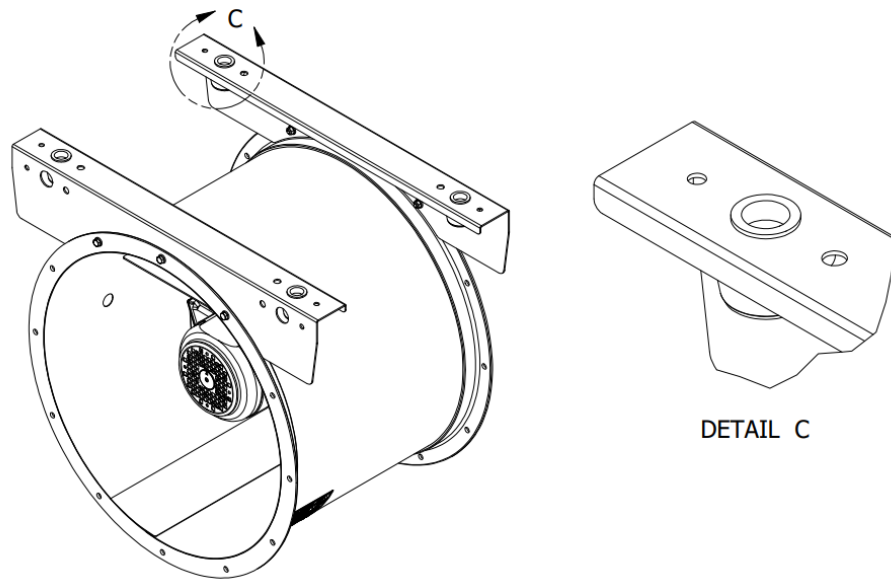

Figure 2 - Axial Fan Bracket
- Install the isolators on the on the axial fan bracket (or other equipment) as shown in Figure 2, making sure the soft flange comes through the mounting hole and grips the bracket.